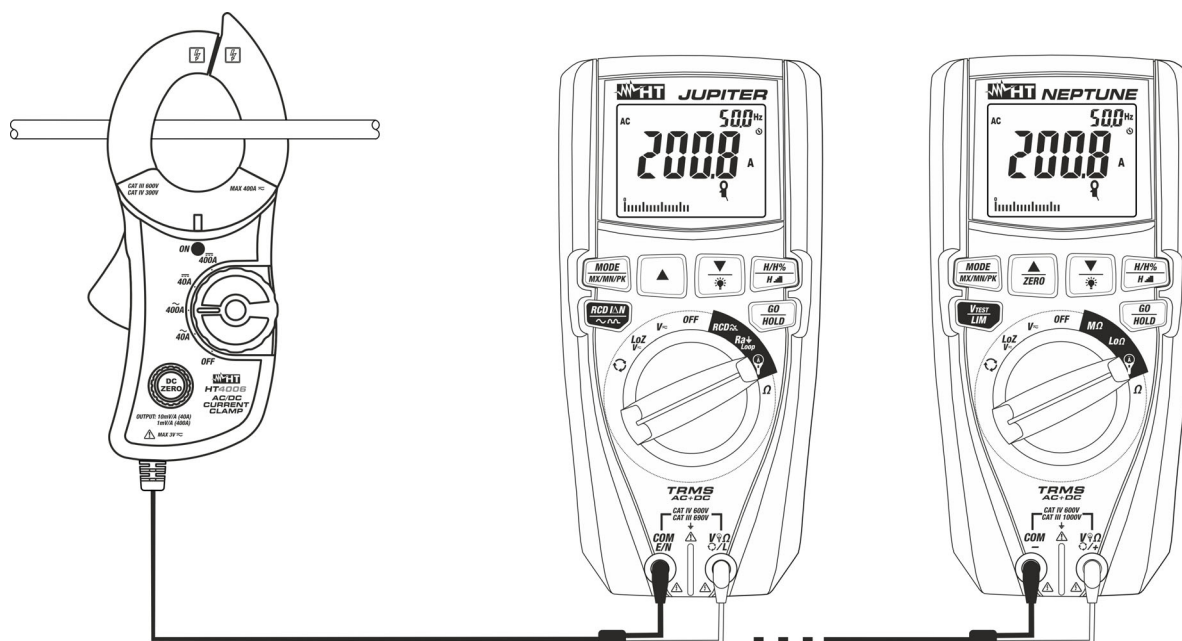

Fig. 5: Use of the instrument for measuring AC/DC current with JUPITER / NEPTUNE
- Open the jaws and insert the phase cable in the middle of it (see Fig.5). **For DC current measurement** consider the arrow on the top part (see Fig. 1 – part 9) which indicate the positive direction of the current. The display of the multimeter shows the value of current **expressed in A**